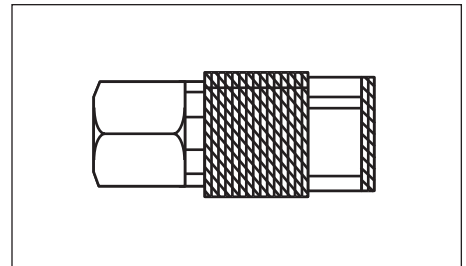

Figure 6 - Quick Coupler
**QUICK COUPLER** — A quick coupler is designed to work in combination with a quick plug to quickly and easily join a pneumatic tool to an air hose (see Figure 6).